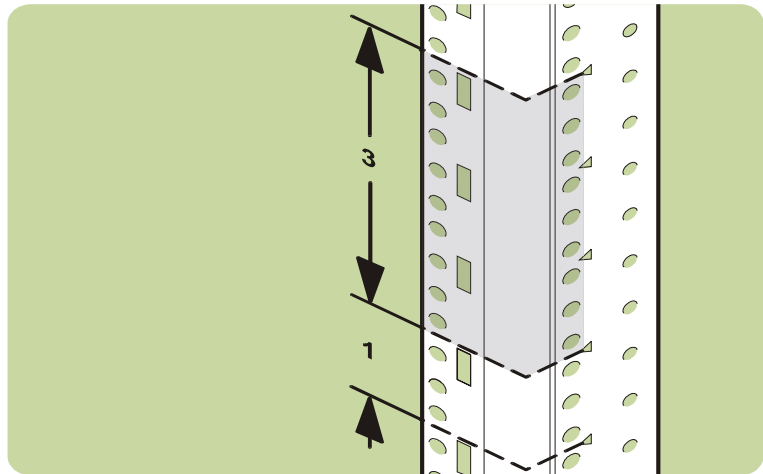

Fig. 23. Locating units of space in HP Computer Cabinet
3. The array and rail kit take 4 units of space: 3 units for the array, and 1 unit for the rails (see Fig. 23). Using the template provided, locate the required units of space on the four rack columns.